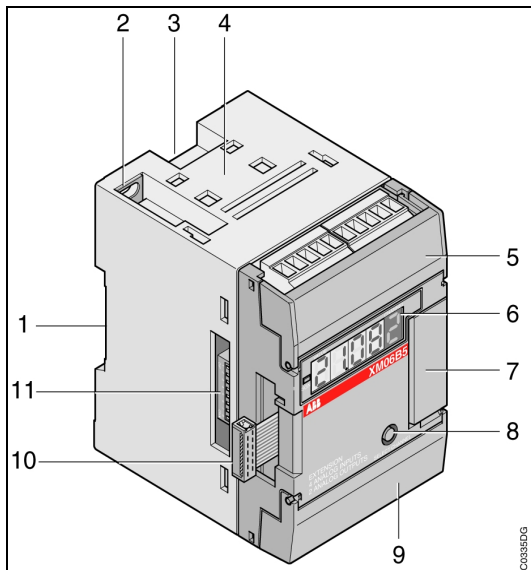

Figure 2-6: Analog extensions
**Description of the front panel, see Figures 2-6 and 2-7 on the previous page**